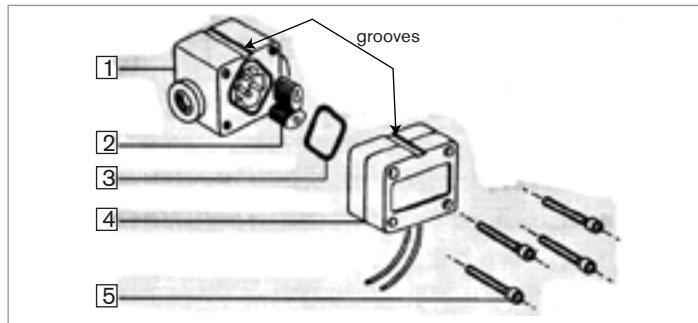

Fig.8      Exploded view of the 8071 sensor
- Unscrew the 4 screws (mark 5 Fig.8) and remove the cover (mark 4 Fig.8).
- Remove the seal (mark 3 Fig.8).
- Remove the rotors (mark 2 Fig.8).
→ Replace the seal (mark 3 Fig.8).
Align the groove on the cover with the one of the body (see Fig.8).
→ Replace the cover (mark 4 Fig.8).
→ Tighten the 4 screws (mark 5 *Fig.8*) in an alternating pattern at the following torque: